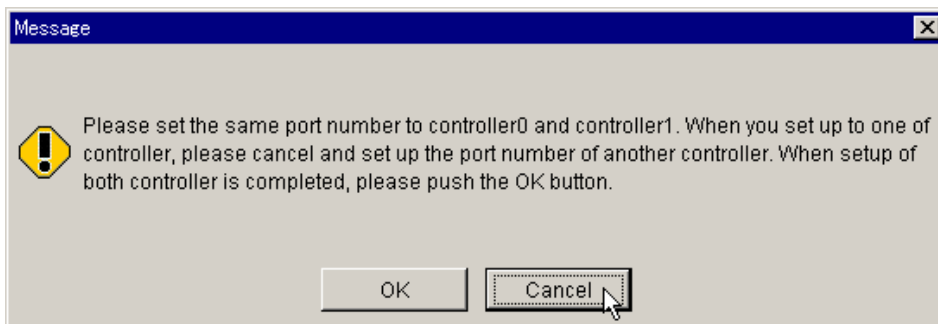

Figure 5.29 Set Same Port Number
6. On the **Set Same Port Number** dialogue box (see Figure 5.29), click **Cancel**.